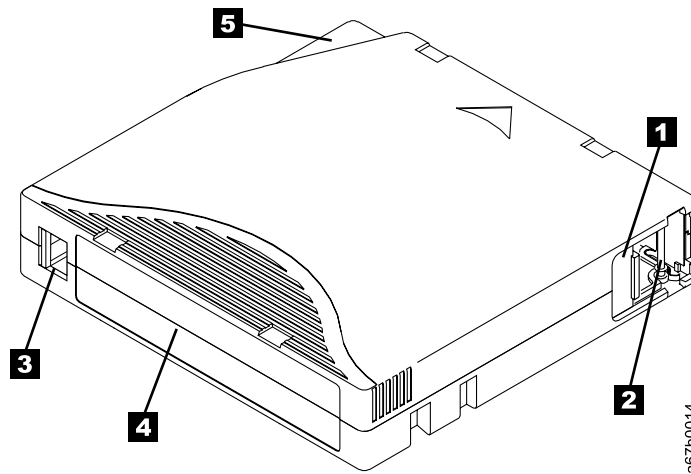

Figure 12. The IBM LTO Ultrium Data Cartridge
Figure 12 shows the IBM LTO Ultrium Data Cartridge and its components.
The cartridge door (**1** in Figure 12 on page 35) protects the tape from contamination when the cartridge is out of the drive. Behind the door, the tape is attached to a leader pin **2**. When you insert the cartridge into the drive, a threading mechanism pulls the pin (and tape) out of the cartridge, across the drive head, and onto a non-removable takeup reel. The head can then read or write data from or to the tape.
When attaching a bar code label to a tape cartridge, place the label only in the recessed label area (see **4** in Figure 12 on page 35). A label that extends outside of the recessed area can cause loading problems in the drive or the autoloader.
- Position the label within the recessed label area (see **4** in Figure 12 on page 35).